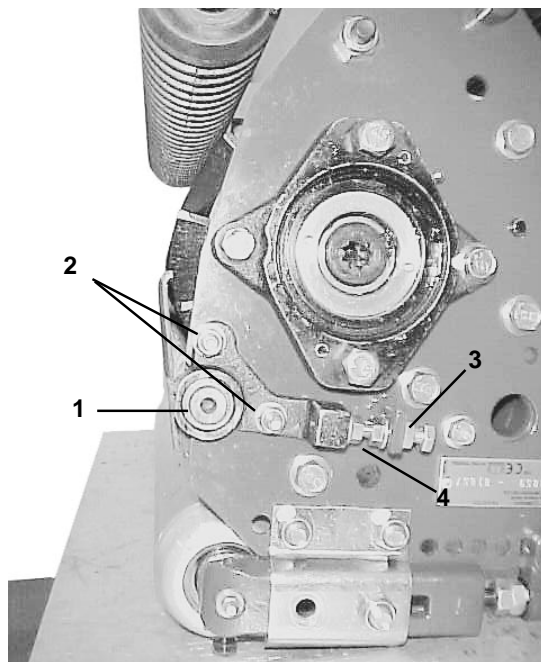

Figure 8
5. Loosen the pivot hub lock nuts to allow movement of the pivot hub (Fig. 8).
6. If the paper was not cut on the left side: loosen the bottom adjusting nut on the pivot hub, then turn the top adjusting nut clockwise to pull the pivot hub up. OR If paper was not cut on the right side: loosen the top adjusting nut on the pivot hub, then turn the bottom adjusting nut counterclockwise to push the pivot hub down (Fig. 8).
IMPORTANT: Cutting unit “attitude” has a significant impact on the performance of the cutting unit. Attitude refers to the angle of the knife relative to the ground (Fig. 8). Adjustable front and rear brackets allow for variable adjustment of the cutting unit attitude within the height-of-cut range. All cutting units on a machine must be set to the same attitude. If they aren't, the after-cut appearance will be negatively affected.